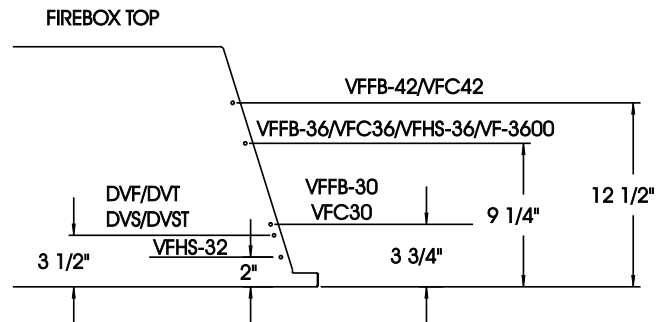

Figure 1
10. Located in the right, front are two (2) weld studs which protrude upward into the bottom of fireplace for attachment of speed control.
11. Insert speed control into interior, bottom of fireplace. Align and place two (2) clearance holes on speed control onto two (2) weld studs.
12. Use two (2) wing nuts to attach speed control to weld studs.
13. Refer to Figure 1 for mounting hole location on right side of firebox top that applies to your appliance. Measure from front edge of firebox top to determine mounting hole location. Remove appropriate screw from firebox top.